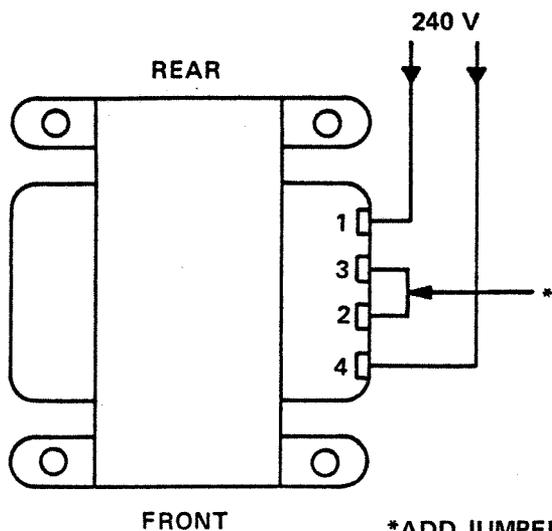
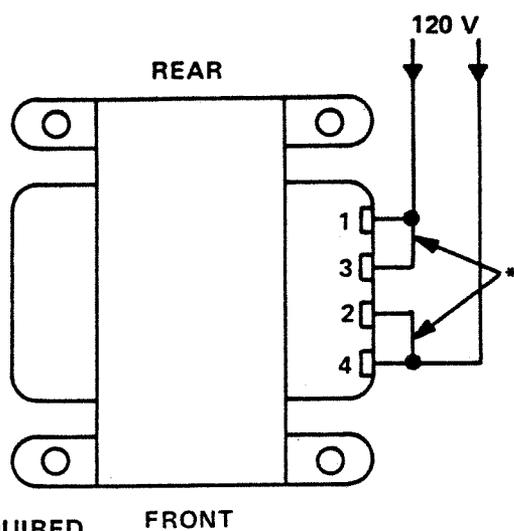

Figure 2-3A. 240 Volt Operation
Figure 2-3B. 120 Volt Operation
- d. Make the appropriate connections to the split primary windings of the power transformer in accordance with Figure 2-3A. (Figure 2-3B is included for reference.)